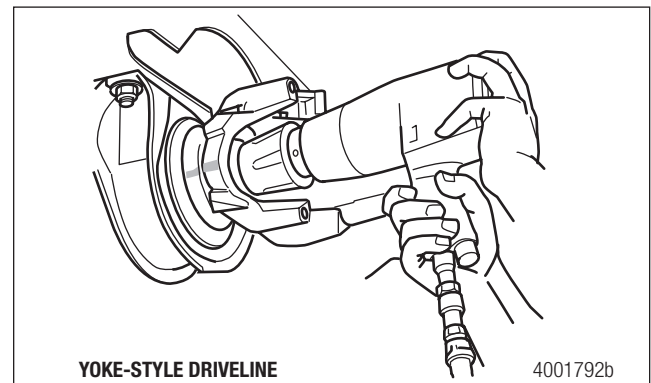
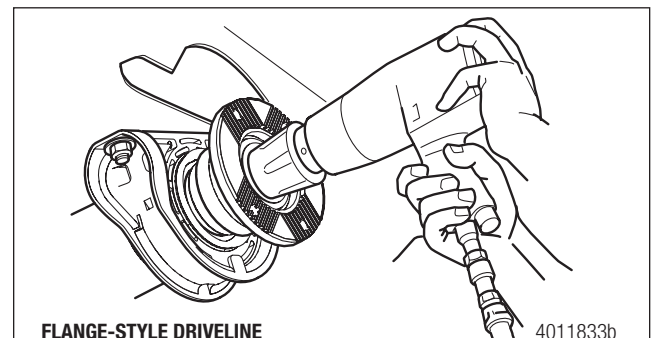

Figure 10.4
Figure 10.5
1. Remove the coupling shaft yoke or flange nut. Discard the nut. Inspect the washer. You can reuse the washer if it's not damaged. Figure 10.4 and Figure 10.5.